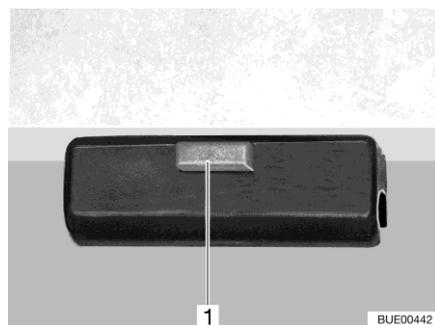

Fig. 131 Lock
- Release the lock (Fig. 131,1) on the table top.